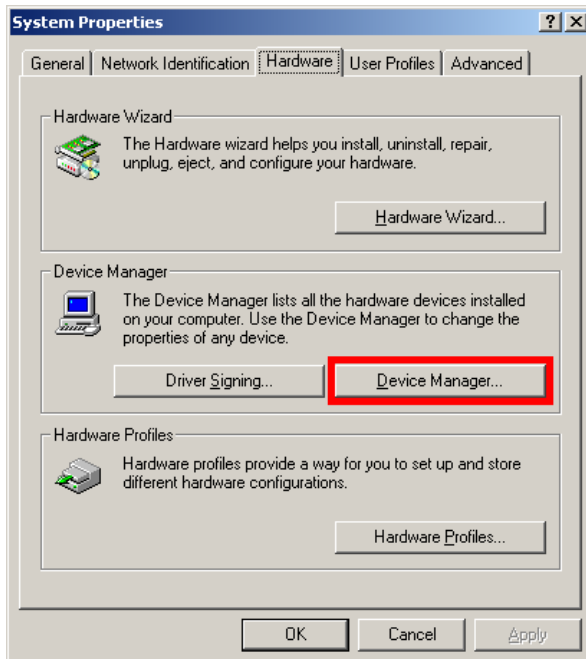

Figure 7-18: Device Manager Tab
Step 3: Click the Device Manager tab (Figure 7-18).